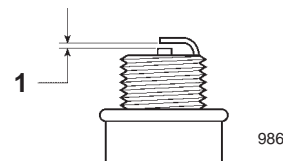

Figure 24
- Set the gap on the new plug to 0.020 in. (0.50 mm) (Fig. 24).